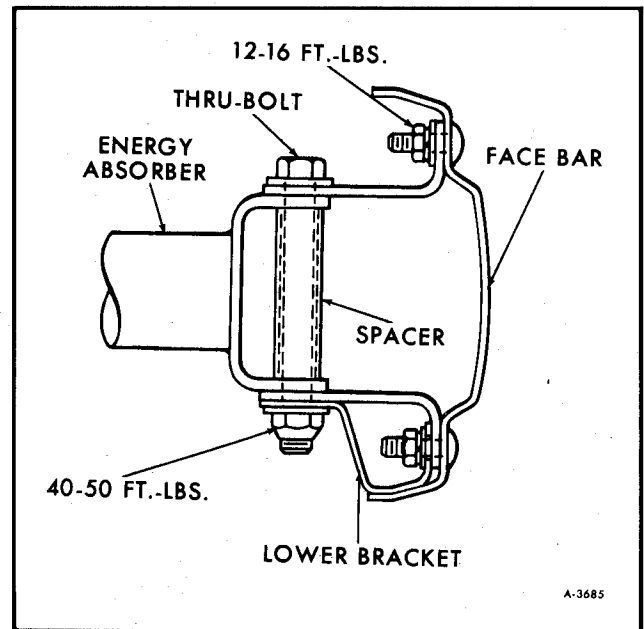

Figure 5—Front Bumper Bracket Mounting
1. Remove bumper by removing both bumper bracket thru bolts (See figure 5).
NOTE: Be sure lower bracket is properly installed (See figure 5) before tightening retaining nut.
1. Remove face bars by removing both bumper bracket thru- bolts (See figure 5).